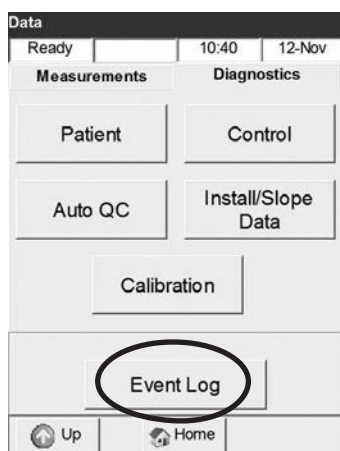

Fig. 7-50 Select Event Log
- To print an event log, select **<Diagnostics -> Event Log>** in the **<Data>** screen (Fig. 7-50).